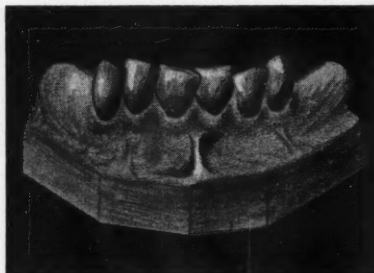

Fig. 1—Stone model before extraction.
1. An accurate impression of the patient's mouth is made before the teeth are extracted and a stone model is made just as for any case of immediate denture service (Fig. 1).